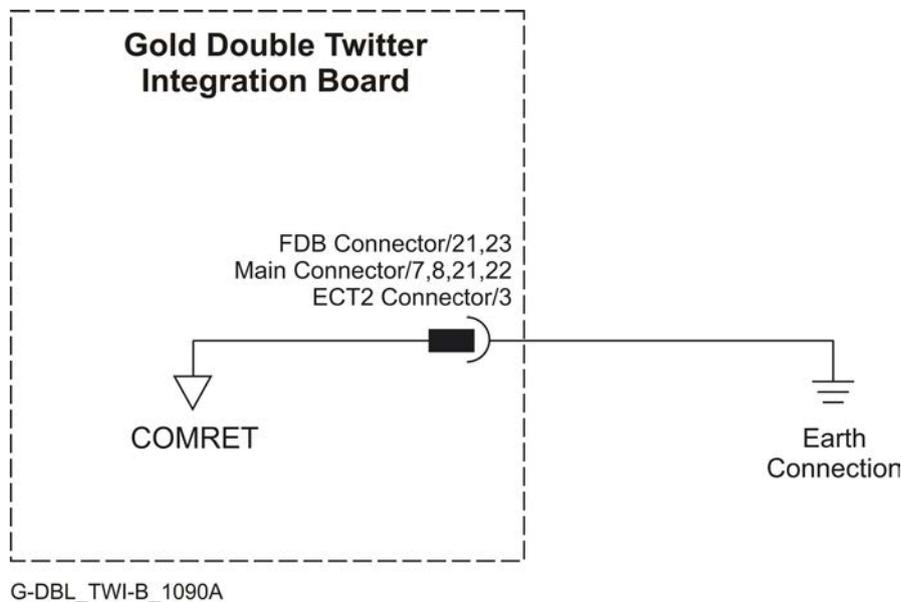

Figure 7: COMRET Connection to the PE
At least one COMRET pin (Figure 7) must be connected to the Protective Earth (PE).